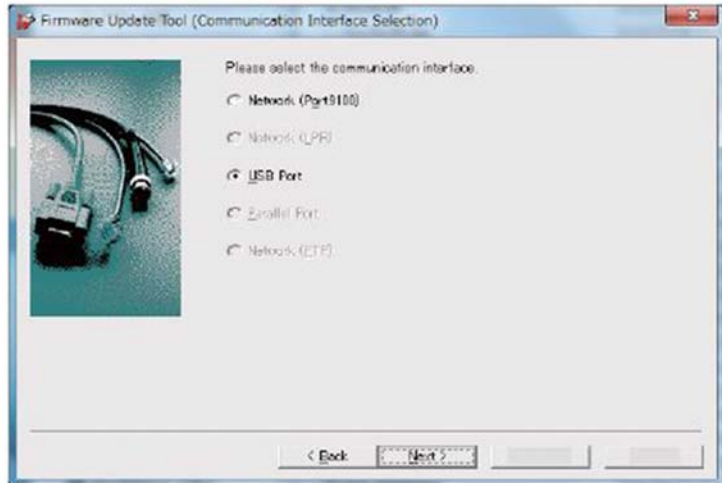

Figure 9 USB port
9. Select **USB Port** on the Communication Interface Selection screen, then touch **Next** to begin the download, Figure 9.